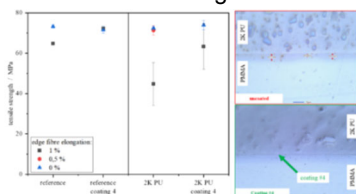

Figure 1:
Experimental results, using the strip bent method, demonstrate that adhesive-induced ESC in polymethyl methacrylate (PMMA) can significantly reduce mechanical strength (Figure 1). In this example, a 2K polyurethane (PU) adhesive was applied to the PMMA surface. However, plasma-coated PMMA surfaces showed restored strength levels comparable to unexposed reference samples. Microscopic analysis confirmed that the coating effectively prevents interfacial degradation. Furthermore, lap shear tests revealed that the plasma coating not only preserves but can even improve adhesive bond strength, increasing from 5.4 MPa (adhesive failure) to 7.2 MPa (cohesive/adhesive failure).